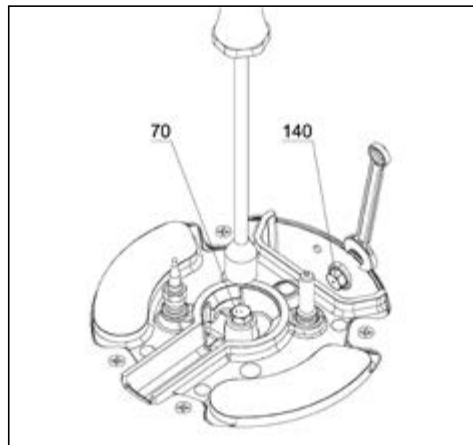

FIG. 2
- remove the nozzles using a 7 mm wrench and replace them with the standard nozzle for the desired type of gas. (fig. 2).